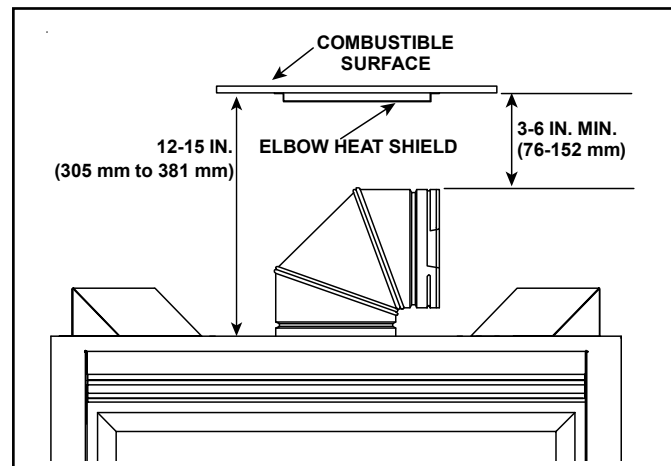

Figure 6.2 Elbow Heat Shield Installation Location
2. If the combustible materials are to be installed between 12 to 15 inches above the top of the appliance, the elbow heat shield is required. See Figure 6.2.